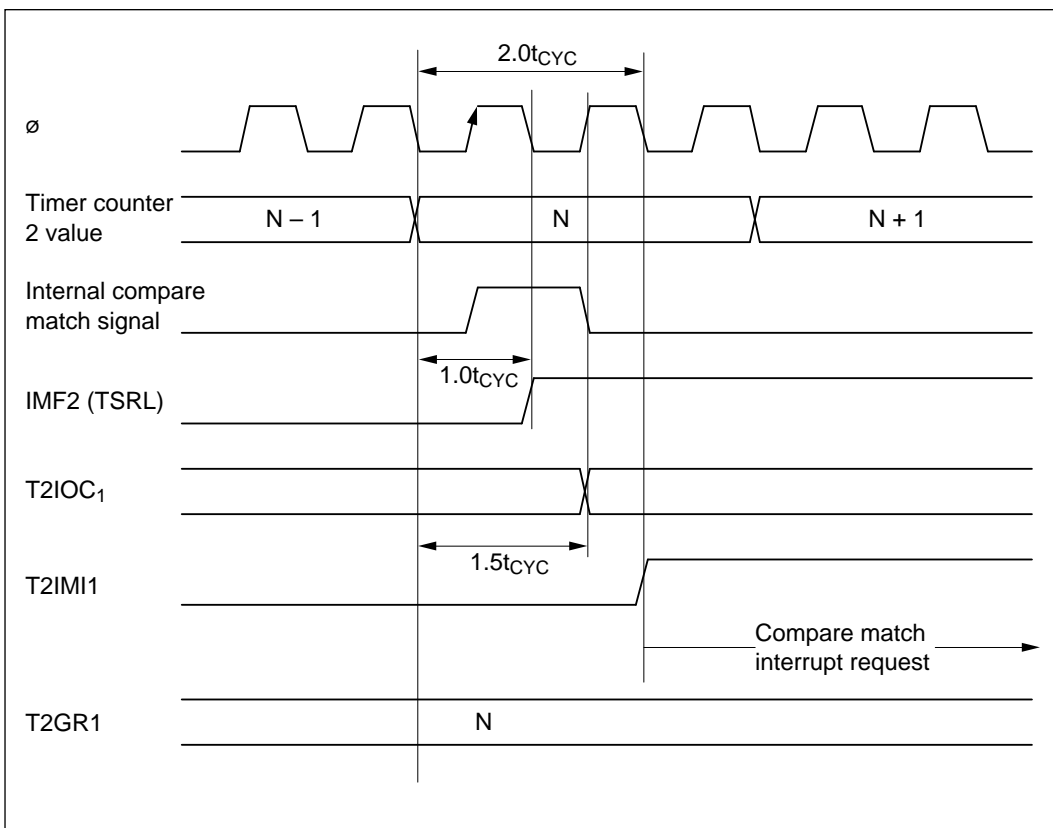

Figure 11-46 Timing from Incrementation to Compare Match Interrupt Request
(1) Output Compare Timing: Figure 11-46 shows the timing from counter increment to generation of a compare match interrupt request. One system clock cycle ($1.0t_{CYC}$) after timer counter 2 matches the T2GR1 value (N), the IPU sets the input capture/compare match flag (IMF). A compare match signal ($T2IOC_1$) is output $0.5t_{CYC}$ after IMF is set. The interrupt request ($T2IMI1$) is generated $0.5t_{CYC}$ after the $T2IOC_1$ output. The $T2IMI1$ interrupt request therefore comes $2.0t_{CYC}$ after the counter is incremented to N.